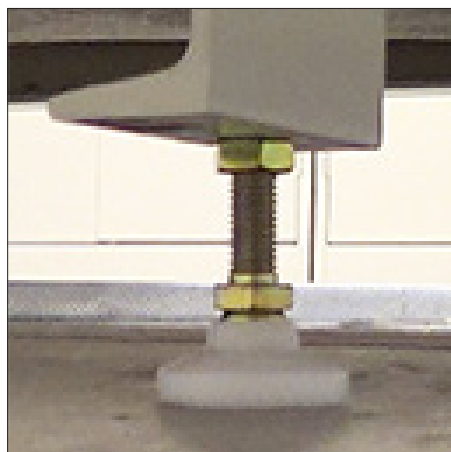

Figure 6.3b: Optional leveling pad.
- An optional leveling pad kit (Part Number F-8977-K) is available (Figure 6.3b).